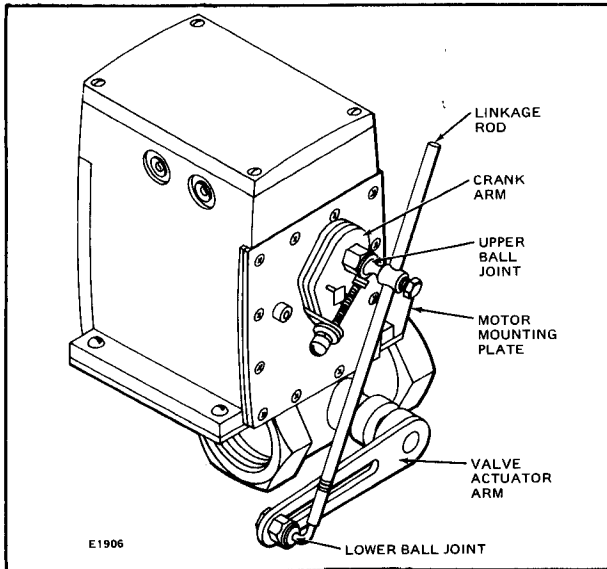

FIG. 2—Q100B LINKAGE ASSEMBLY.
CONNECTING MODUTROL MOTOR AND V51E VALVE USING Q100B LINKAGE (See Fig. 2)
Special parts needed for the basic assembly are furnished in bag assemblies. For adapting Q100B linkage to operate dampers, auxiliary valves, or other equipment, see burner manufacturer's instructions. Install the motor and linkage on the valve as follows (refer to Fig. 2):
3. Install valve actuating link as shown in Fig. 2 and adjust as desired. Do not tighten ball joint setscrews until stroke has been properly set. Refer to V51E specification sheet (form 60-2102-3) for linkage adjustments.